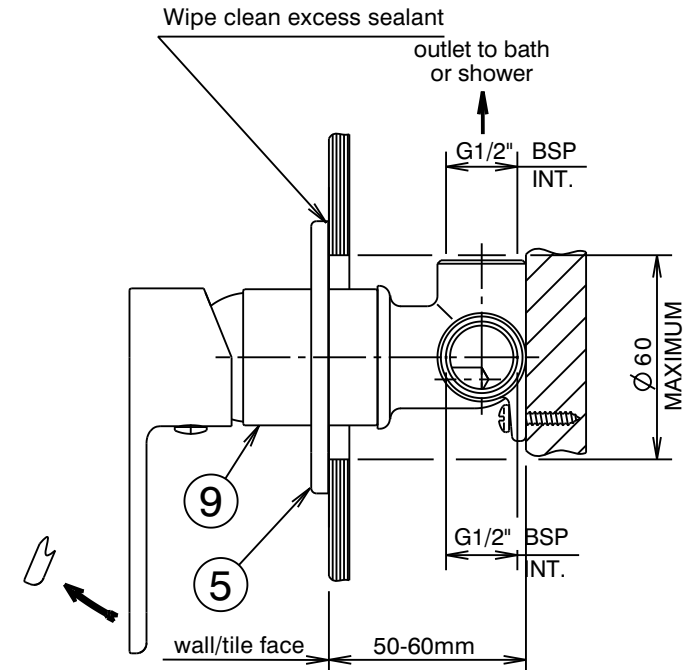

Fig. 1
Installation (Fig. 1 & 2)
- * Mixer body (9) must be installed square to wall/tile face, to ensure cover plate (5) sits flush.
- 2) Apply a suitable clear sealant to the back face of the cover plate (5), leaving an unsealed section at the bottom for drainage. Carefully fit the cover plate (5) onto the mixer body (9), ensuring the 'Caroma' logo is at the bottom. Push the cover plate (5) firmly against the wall/tile face. Wipe clean any excess sealant from the chrome surfaces & the wall/tile face (See Fig. 1).
- 3) Fit handle (1) taking care that it is pushed fully onto cartridge stem, then tighten grub screw (2) using the 2.5mm allen key (3). Fit plug (4), taking care not to damage the decorative finish.